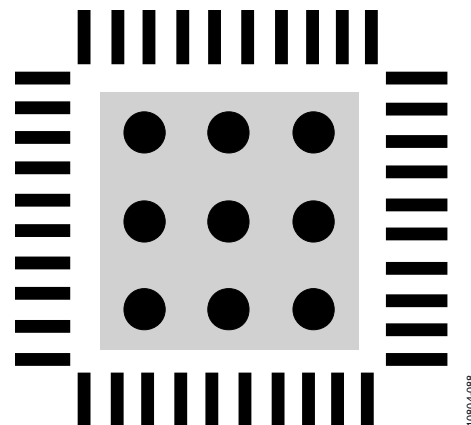

Figure 104. Exposed Pad Layout Example, Top View (Not to Scale)
- Vias should be placed to connect all layers of copper, allowing for efficient heat and energy conductivity. For an example, see Figure 104, which has nine vias arranged in a 3 \times 3 grid in the pad area.